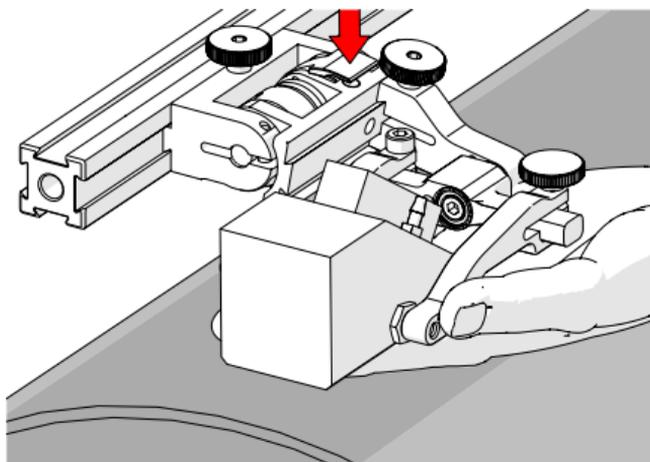

Fig. 98 - Lift and press latch button
3. Lift the probe slightly and press the latch button (*Fig. 98*) to apply spring pressure to the wedge.